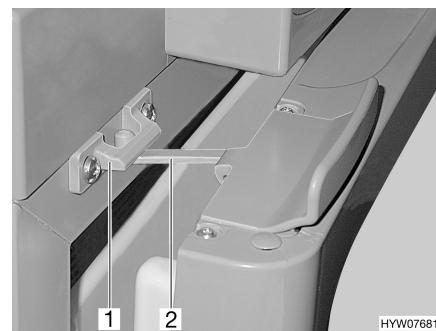

Fig. 66 Refrigerator door in ventilation position (Thetford)
■ Open the lock (Fig. 66,2) and snap it into the locking catch (Fig. 66,1). The refrigerator door will then stay slightly open.